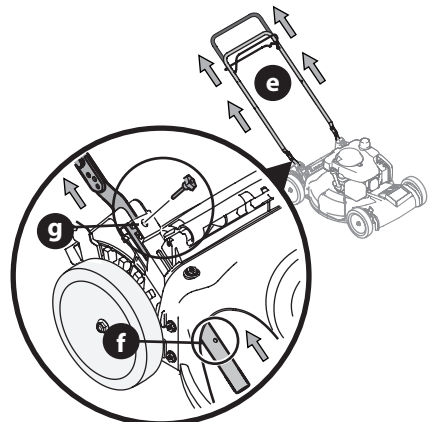

Figure 3
4. Pull upward on the handle (e) (Figure 3) until holes in lower handle (f) line up with holes in handle brackets (g) (Figure 3 Inset, Deck Cutaway).